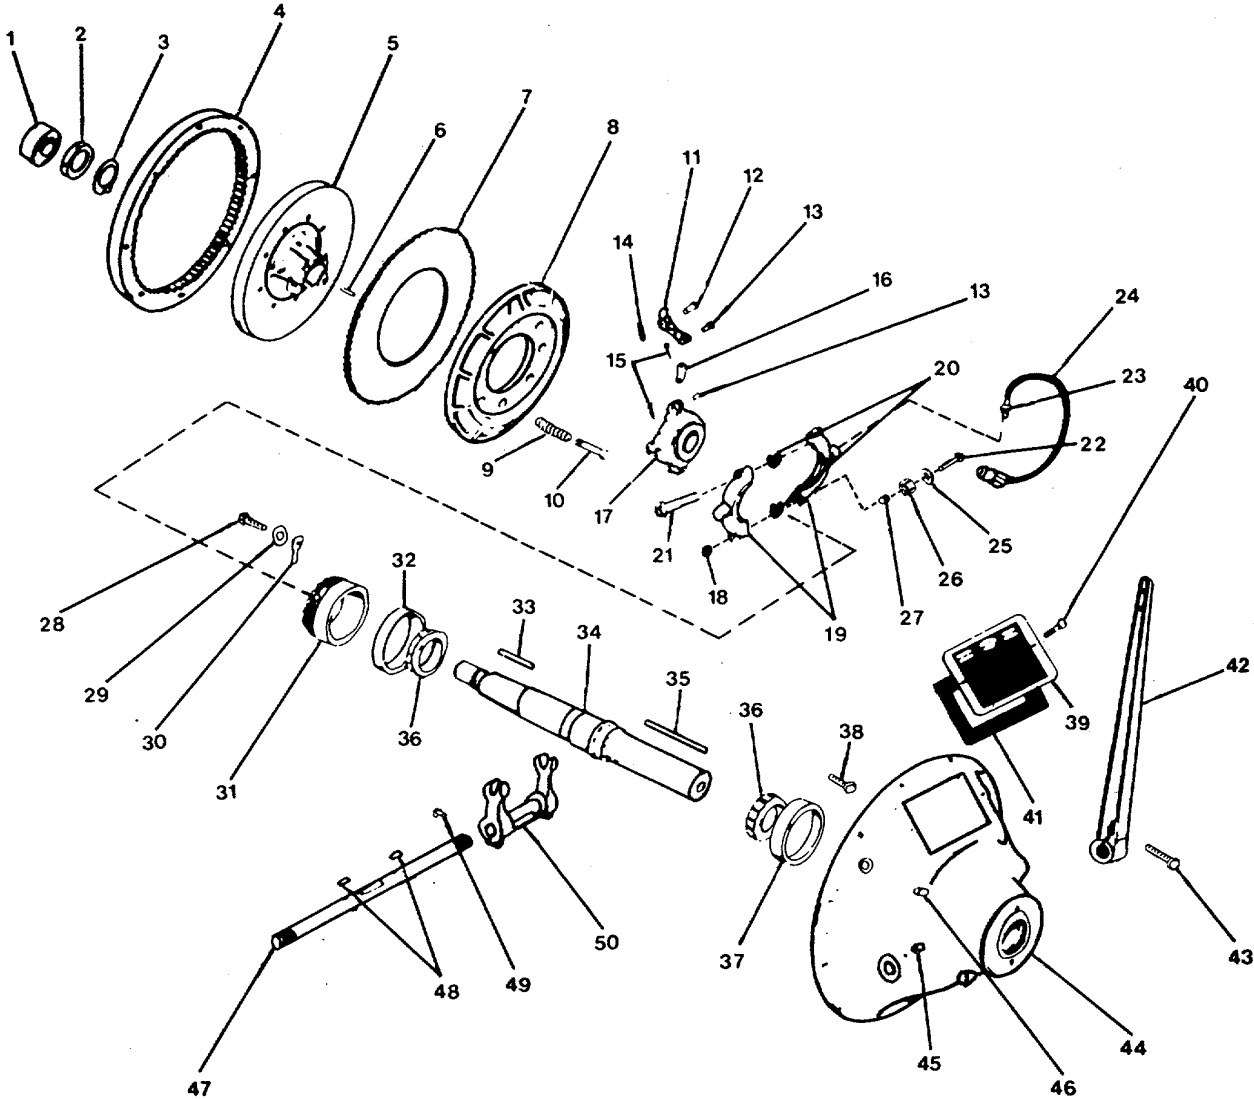

FIGURE 4-21. Power Takeoff Assembly (SL-111).
(Refer to FIGURE 4-21 for reference numbers used in this procedure.)
- j. After adjustment, install the retainer lock (30, FIGURE 4-21) and secure the lock (30) to the clutch housing (44) with a capscrew (28) and lockwasher (29). Tighten the capscrew to 21-24 ft-lb. torque. Be sure to lubricate the main bearings through the housing fitting near the shaft exit.
- k. Install the lubrication fitting (38) in the rear (output) end of the clutch shaft (if used).
- m. Install four levers (11) and pins (12) in the hub and back plate (8). Secure the levers (11) and pins (12) to the plate (8) with four cotter pins (14). Spread the cotter pins.
- n. Install the driving plate (7) onto the hub and back plate.
- o. Install the floating plate (5) onto the hub and back plate (8) against the driving plate (7).
- p. Use four pins (13) and cotter pins (15) to attach eight links (16) to the finger levers (11). Spread the cotter pins. When the cotter pins are spread, the radius of the pin ends must not be greater than 0.31 inch. This is necessary to prevent operating interference.
- q. Install the eight spring bolts (10) and pressure springs (9) through the floating plate and into the hub and back plate. Tighten the spring bolts until their shoulders contact the hub and back plate; then, tighten them to 160-175 ft-lb. torque.
- r. Assemble the collar (19) halves and shims (20) to the sliding sleeve (17) with the two capscrews (22) and two hex-nuts (18). Tighten the hex-nuts to 38-42 ft-lb. torque. Install the two guide pins (6) with flats into the sliding sleeve (17) if they were removed during disassembly.
- s. Install the sliding sleeve (17) with attached parts entering the guide pins (6) into the hub of the hub and back plate.
- ab. Place the instruction cover plate gasket (41) and install the cover plate (39) on the PTO housing with two round-head screws (40). Tighten the screws to 11-13 ft-lb. torque (FIGURE 4-21).
- ac. If the driving ring (4) was removed, position the driving ring (4) against the engine flywheel and secure it with eight hex-head capscrews. Torque capscrews. Refer to Table 3-5.